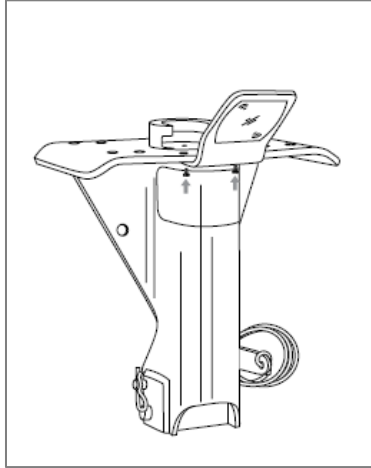

Figure 6.15
- Rotate handle to the position shown in Figure 6.15 and raise trailer off ball. Coupler will return to load position automatically.
- Install safety pin and clip. See Figure 6.15.